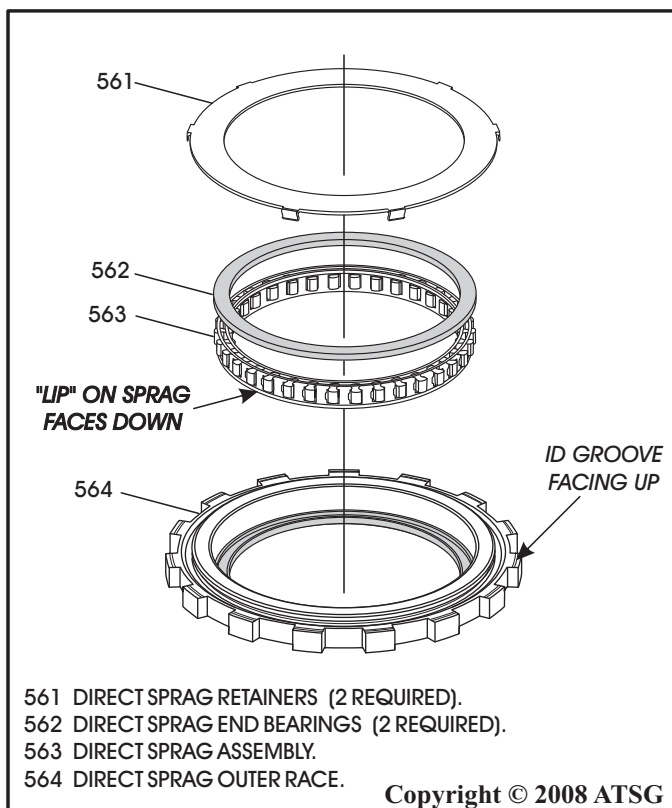

Figure 150
6. Install the direct sprag assembly into the outer race, as shown in Figure 150, with the "lip" on sprag cage facing down.
Note: The direct sprag cage has no arrows on it to help with direction of installation. The "lip" must face down, with the ID groove on the race facing up, as shown in Figure 150.
7. Install the second direct sprag end bearing, as shown in Figure 150, with the smooth side facing up.
8. Install the second direct sprag retainer by snapping it over the lip on the outer race, as shown in Figure 150.